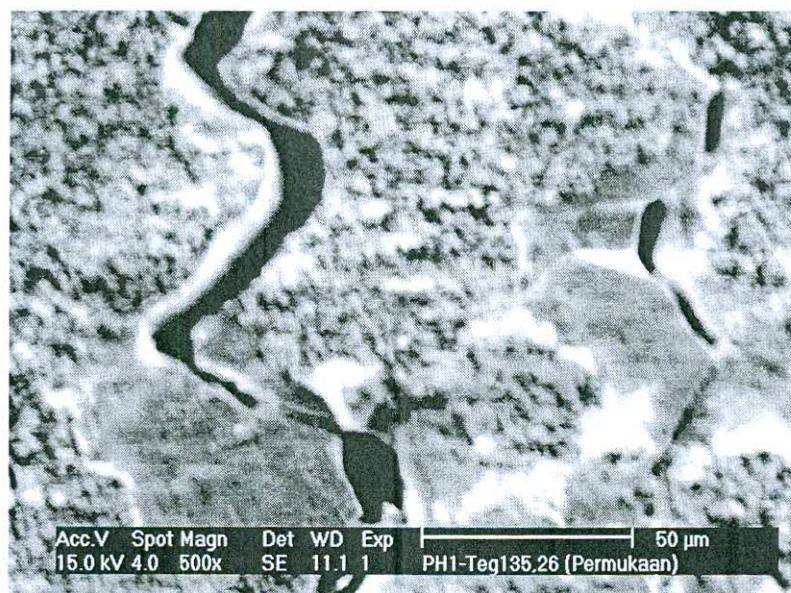

Figure 8 – Stress corrosion cracking of AISI 304 stainless steel
7. [a] Figure 8 shows stress corrosion cracking on a AISI 304 stainless steel.